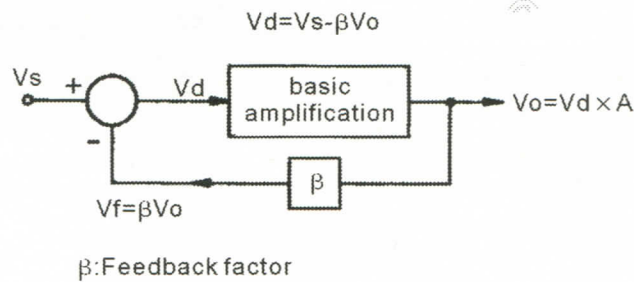

Fig 10-1
- 2) The block diagram of the amplifier with feedback is shown in Fig 10.1.